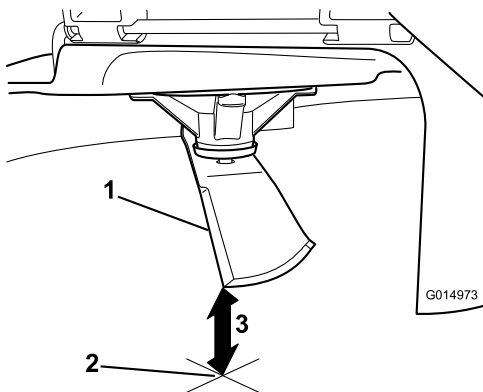

Figure 86
3. Measure from the tip of the blade to the flat surface (Figure 86).